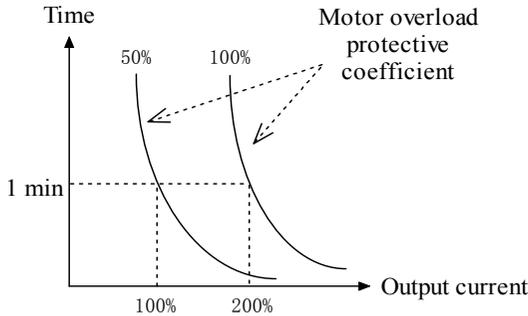

Fig. 5-13-1 Motor overload protection curve
- ◆ In order to apply effective overload protection to different kinds of motors, the Max output current of the inverter should be adjusted as shown in Fig.5-13-1.